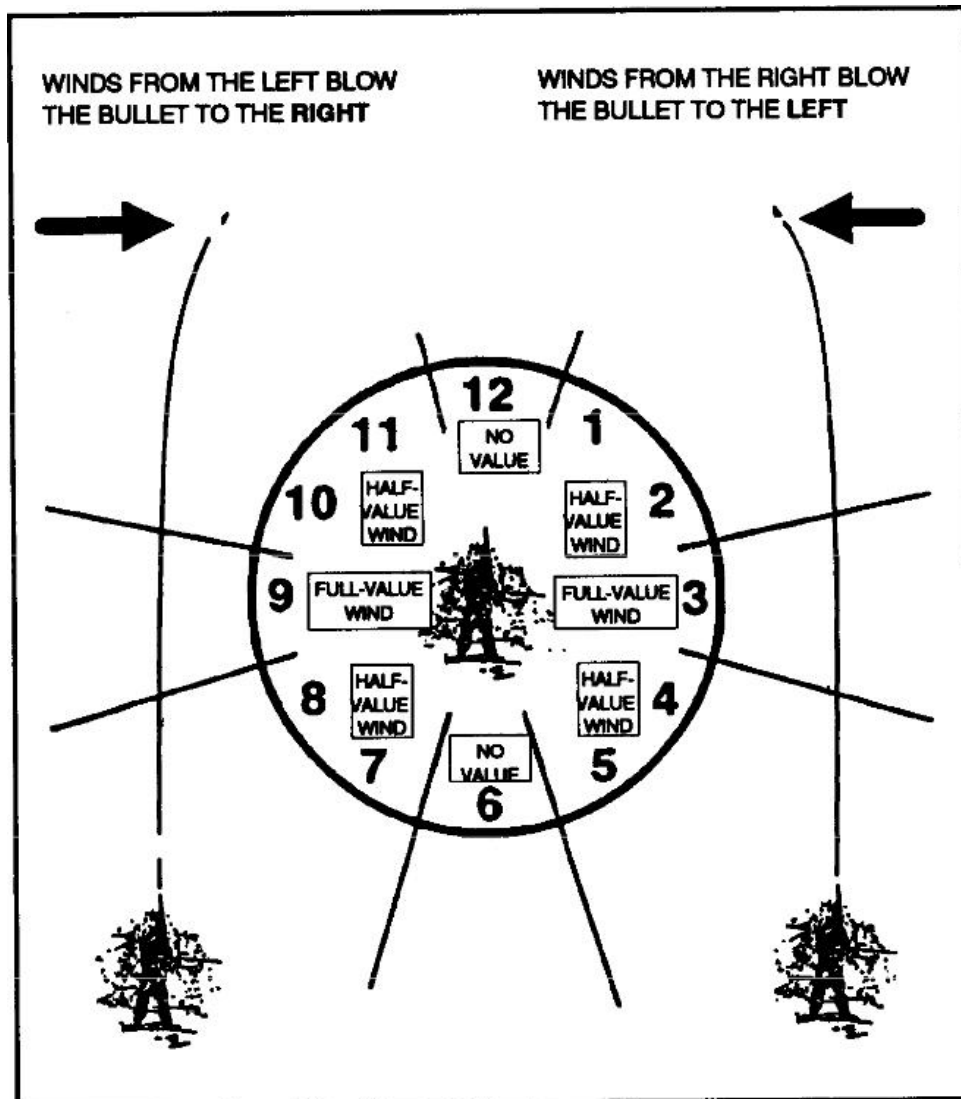

Figure 3-19. Clock system.
(3) Humidity. Humidity varies along with the altitude and temperature. Figure 3-19 considers the changes in altitudes. Problems can occur if extreme humidity changes exist in the area of operations. That is, when humidity goes up, impact goes down; when humidity goes down, impact goes up. Since impact is affected by humidity, a 20 percent change in humidity equals about one minute as a rule of thumb. Keeping a good sniper data book during training and acquiring experience are the best teachers.
(4) Efficiency of the bullet. This is called a bullet's ballistic coefficient. The imaginary perfect bullet is rated as being 1.00. Match bullets range from .500 to about .600. The 7.62-mm special ball (M118) is rated at .530 (Table 3-2).
(5) Wind.
b. Since the sniper must know how much effect the wind will have on the bullet, he must be able to classify the wind. The best method is to use the clock system (Figure 3-19). With the sniper at the center of the clock and the target at 12 o'clock, the wind is assigned three values: full, half, and no value. Full value means that the force of the wind will have a full effect on the flight of the bullet. These winds come from 3 and 9 o'clock. Half value means that a wind at the same speed, but from 1,2,4,5,7,8, 10, and 11 o'clock, will move the bullet only half as much as a full-value wind. No value means that a wind from 6 or 12 o'clock will have little or no effect on the flight of the bullet.